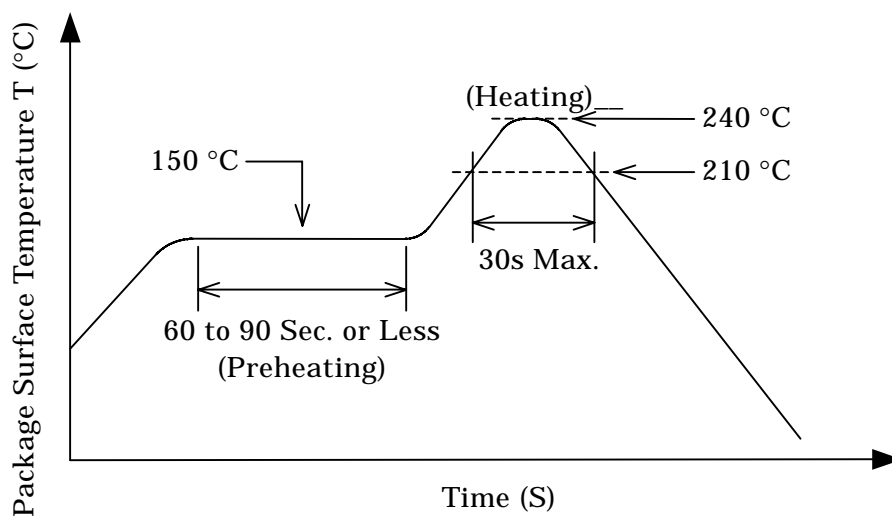

Fig. 5-1 Temperature Profile
- (1) Recommended is the vertical heating method with far/medium infrared rays.
- (2) The package surface temperature should be 210 °C or higher, 240 °C at maximum, within 30 seconds. **Fig. 5.1** shows an example of the recommended temperature profile.
- (3) Note that near infrared reflow will result in thermal stress like solder dip.